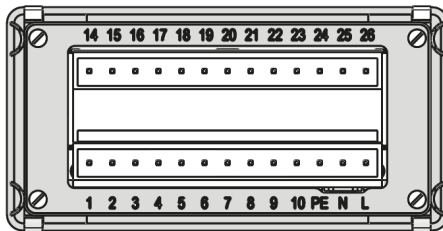

Fig. 3: Pin outs for options (LD-output circuit, interfaces, switching output) for incremental, absolute, speed, number of pieces
- 2x 13 pin coupler strip (see Fig. 3).